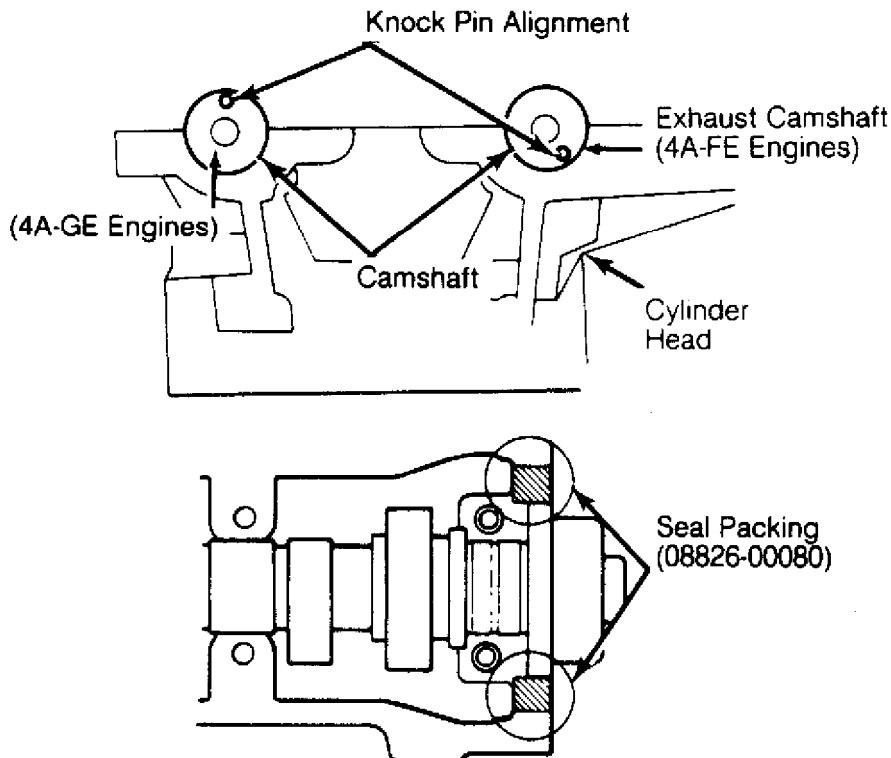

Fig. 2: Camshaft & Seal Packing Installation
3) Place camshafts in cylinder head and apply Seal Packing (SST 08826-00080). See Fig. 2. Ensure exhaust camshaft, with distributor drive gear, is on proper side of cylinder head. Install camshaft bearing caps to location as marked during removal. Ensure exhaust and intake caps are on proper camshaft.